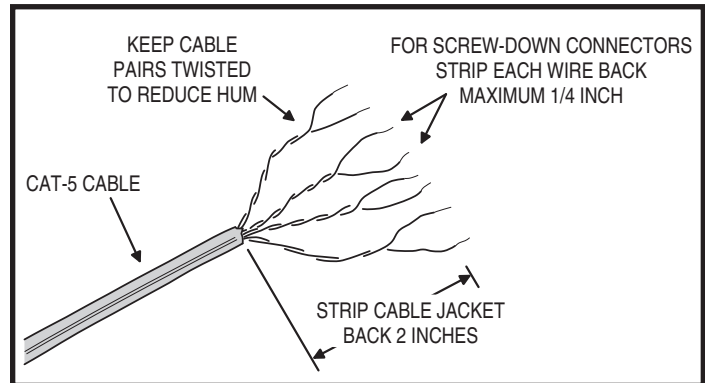

Figure 8. Cat-5 Cable Preparation for Screw-down Connectors
2. Strip back the outer insulation jacket of the room and Patio Station Cat-5 cables 2 inches to expose the four color coded twisted wire pairs inside. Strip back each of the eight wires 1/4" maximum (see Figure 8).